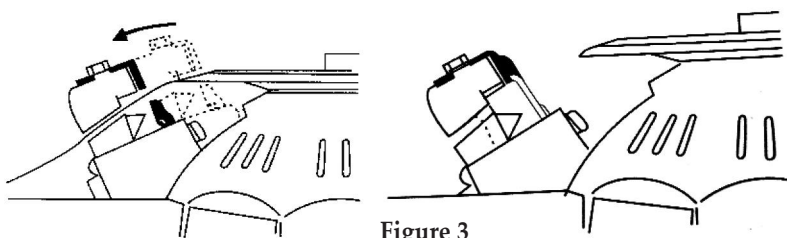

Figure 3
- 4) Bring the Arm Frame(42) away from the carousel.
- 5) Pull the tape through the blades and affix the tape to the carousel. Insert the float at the top of the float chamber. See Figure 3. It is suggested that when applying the tape to the carousel, it is applied to the middle of the carousel. This will help ensure proper loading the first time.